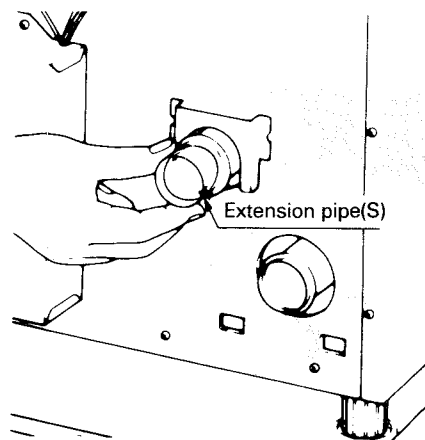

Fig. 12
8. In case the circuit board cover gets in the way of the connection of the standard flue pipe, use the extension pipe (S) for the exhaust outlet mouth of the heater (See Fig. 12).